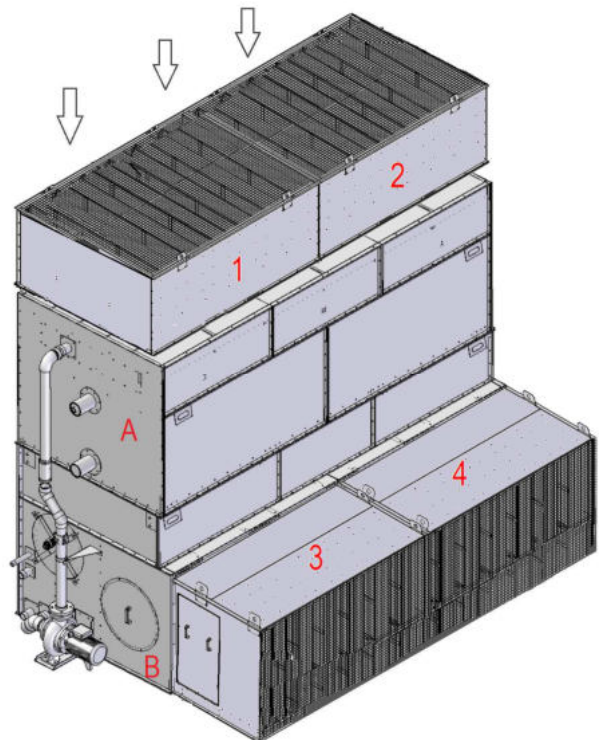

Fig. 21
At this point, move the blocks that form the silencers using the eyebolts provided until they come into contact with the panels of the evaporative condenser. If the length of the condenser is greater than 2.8m then the silencers will be made in multiple pieces. Looking at fig. 21, the inlet silencers, block 3 and 4, will be joined at the basin section (B) but will be independent of each other.